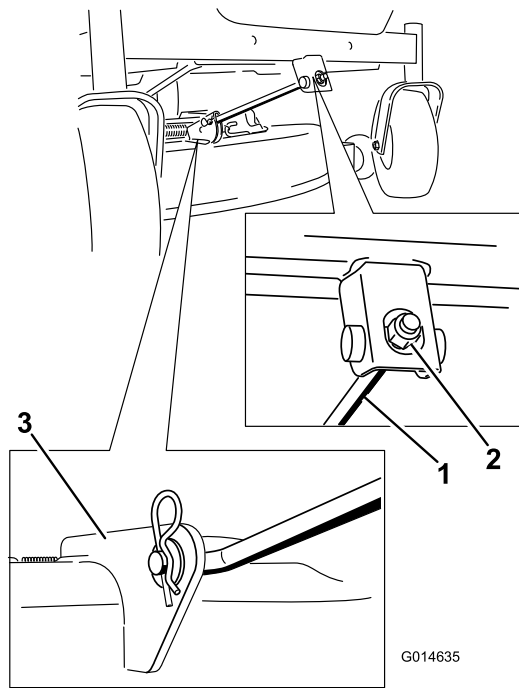

Figure 54
- Remove the hairpin-cotter pin from the front support rod, and remove the rod from the deck bracket (Figure 54).
6. Attach the front support rod to the mower deck with the clevis pin and hairpin-cotter pin (Figure 54).